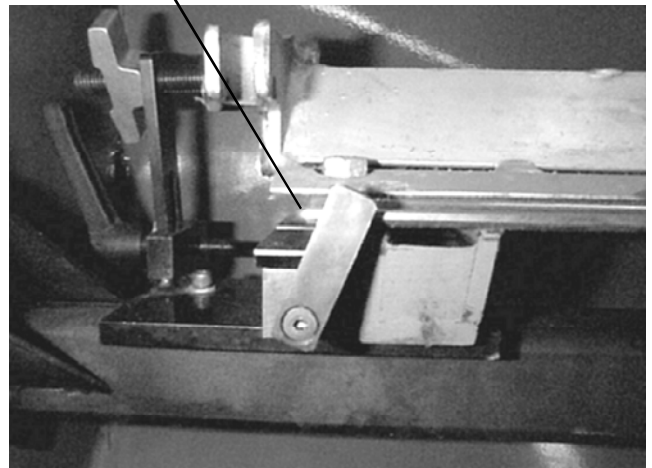
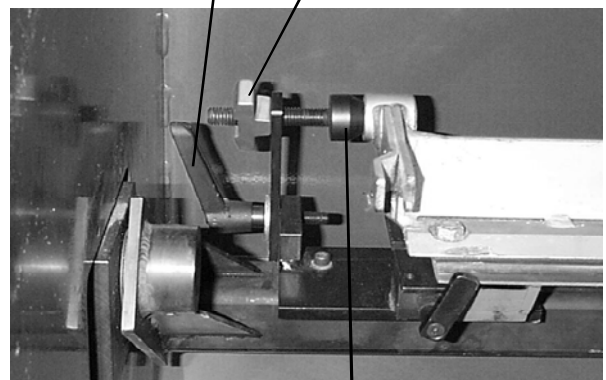

FIG. 22
FIG. 23
2. Position the bedknife so the unworn tips on a used bedknives or the ends of a new bedknife are on the gage tips. See FIG. 22 Pull the bedknife forward firmly against the gage tips. Install the centers by loosening the arms lock handles only enough to slide the arms and loosening the center lock knobs. Position the center into a bedknife hole and tighten the center lock knob and the arm lock handle on both sides. See FIG. 23. Turn down and park both alignment gage tips.